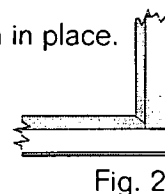

Fig. 2
3) **Hinge:** to install measure from the header to the floor, deduct 2 1/2", then cut the hinge off at the bottom. (2 1/2" will allow the bug channel to fit up under the hinge Fig. 2)